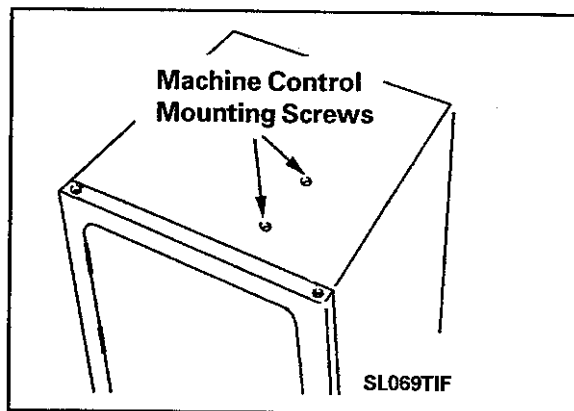

Figure 9-5
located in the front right corner of the dryer top cover (*Figure 9-5*).
3. Remove two 5/16" hex head screws securing the machine control board bracket to the top cover (**Figure 9-5**).